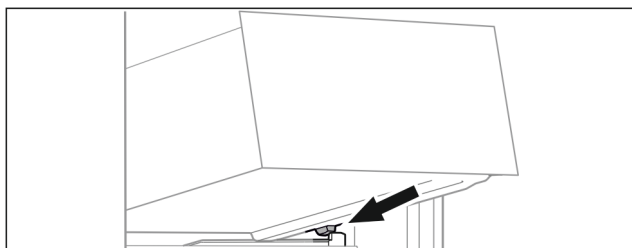

Fig. 33
- Place drawer at an angle behind the stoppers on the moulded rib. (see Fig. 33)